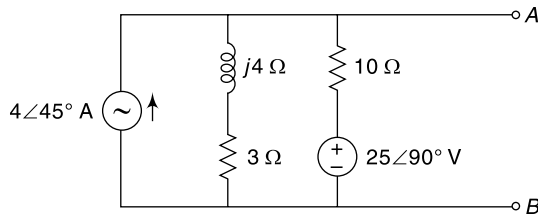

Fig. 6.32 Circuit of Ex. 6.31
6.31 Find Norton's equivalent circuit across terminals AB for the network shown in Fig. 6.32.